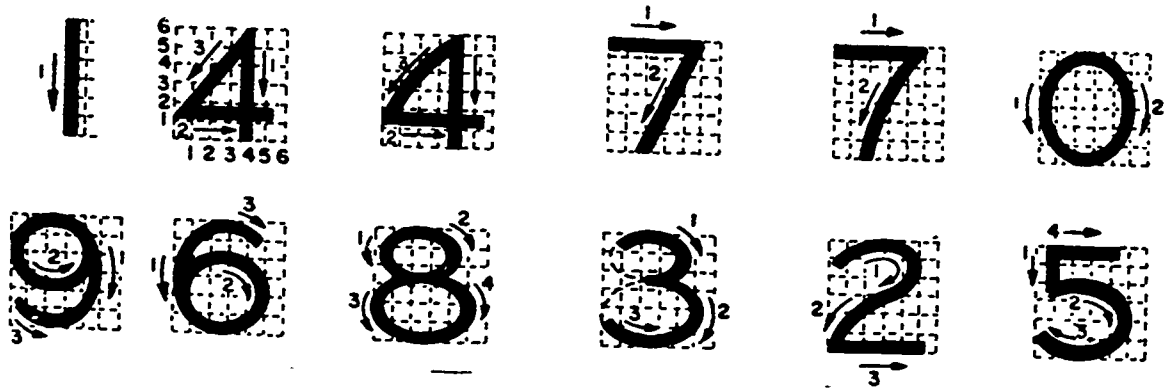

Figure 3-6. Numerals
**Numerals.** Figure 3-6 shows the numerals used with a Gothic style alphabet. Notice the similarity between the bottoms of the 3, 5, and 8 and between the top of the 2 and 3. The top of most numerals is smaller than the bottom. The height of numerals is always equal to the height of the capital letters.